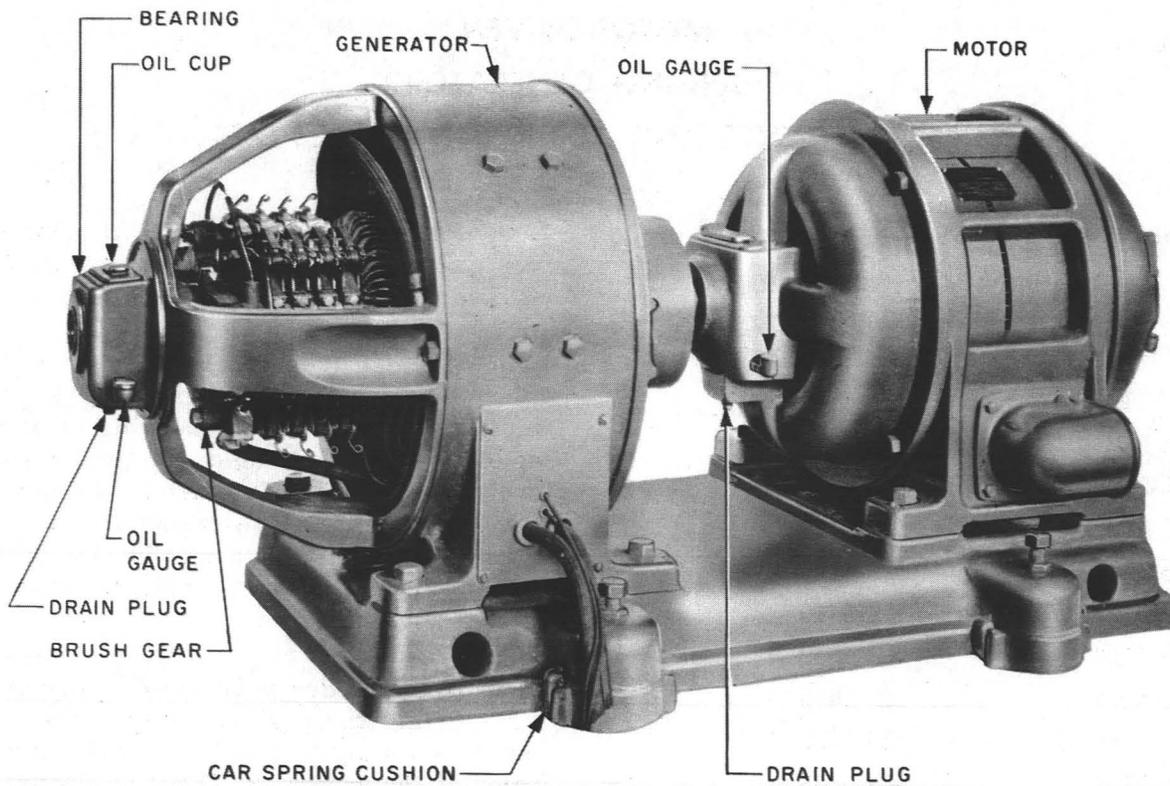

Fig. 1 - KS-5123 Motor-Generator — End-Shield-Type Generator Shown
1.02 This section is reissued to include information on motors formerly covered in Section 159-406-701; to remove the brush grades from Table A; to revise Fig. 1 and the title of this section; and to include information on conversion of brush holders and on noise and vibration of motor-generators.